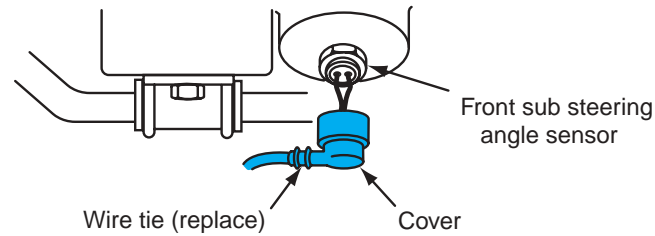

Figure 13-34 Cutting the tie strap and removing the front sub steering angle sensor cover.
6. Cut the tie strap off the front sub steering angle sensor cover and remove this cover (Figure 13-34).